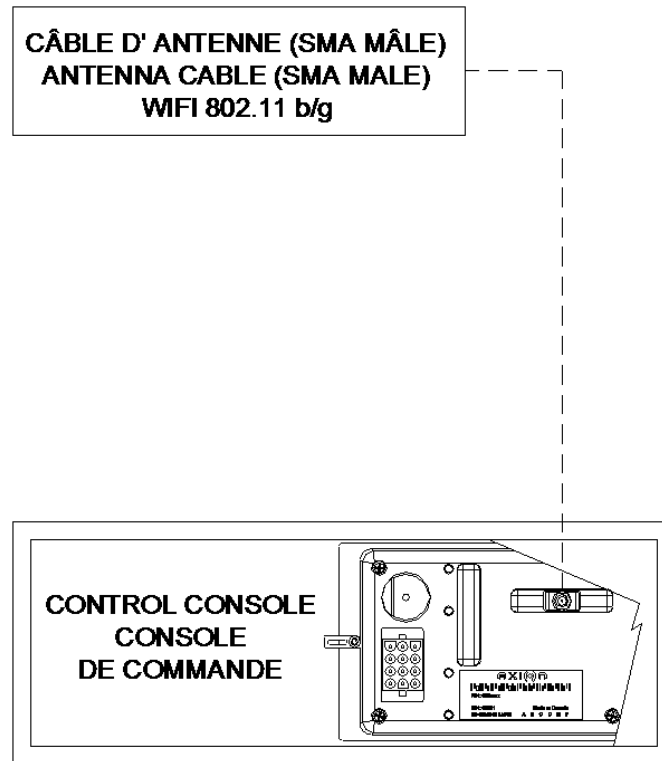

Figure 10: Control Console: Wi-Fi Module - Antenna Cable Connection
- Connect the yield signal switch wire to the bus yield switch. (See Figure 10).